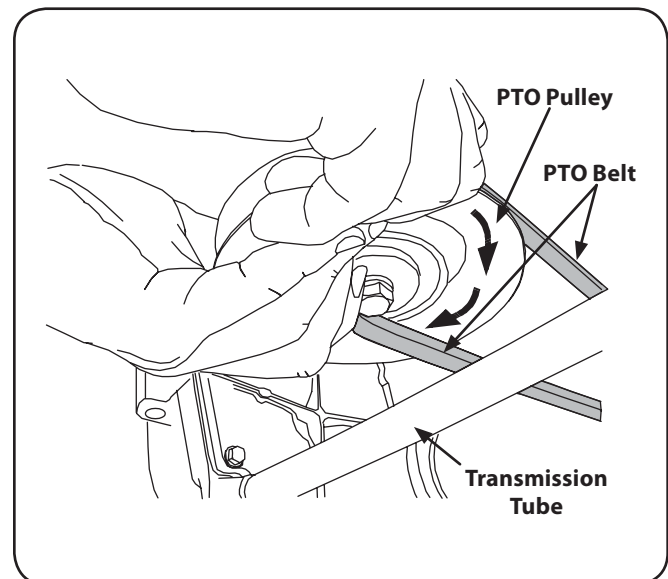

Figure 7-5
4. While still holding the belt downward, continue turning the PTO pulley until the belt is rolled off the pulley. Refer to Figure 7-5.
4. Pull the right side of the belt rearward and place the narrow V side of the belt into the PTO pulley. See Figure 7-5.
5. While holding the belt and pulley together, rotate the pulley to the left (See Figure 7-5). Continue holding and rotating the pulley and belt until the belt is fully rolled into the PTO pulley.